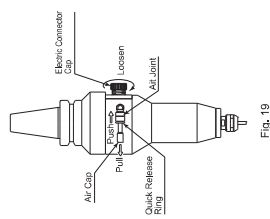

Fig. 19
- ① Insert and Clamp the HES Brushless Motor Spindle to the main spindle of the machining center.
- ② Remove the Electric Connector Cap from the HES Brushless Motor Spindles by turning counterclockwise (Fig. 19).
- ③ Remove the Air Cap from the HES Brushless Motor Spindle's Air Joint (Fig. 19).